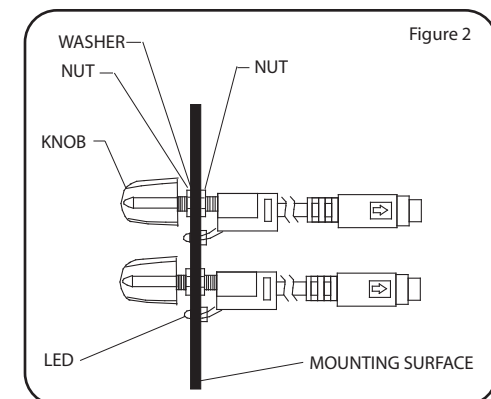

Figure 2
- B. Pick a location to mount the control knobs and LED's, keeping in mind that the LED's should be visible. Leave enough room between knobs for gloved operation (See figure 2)